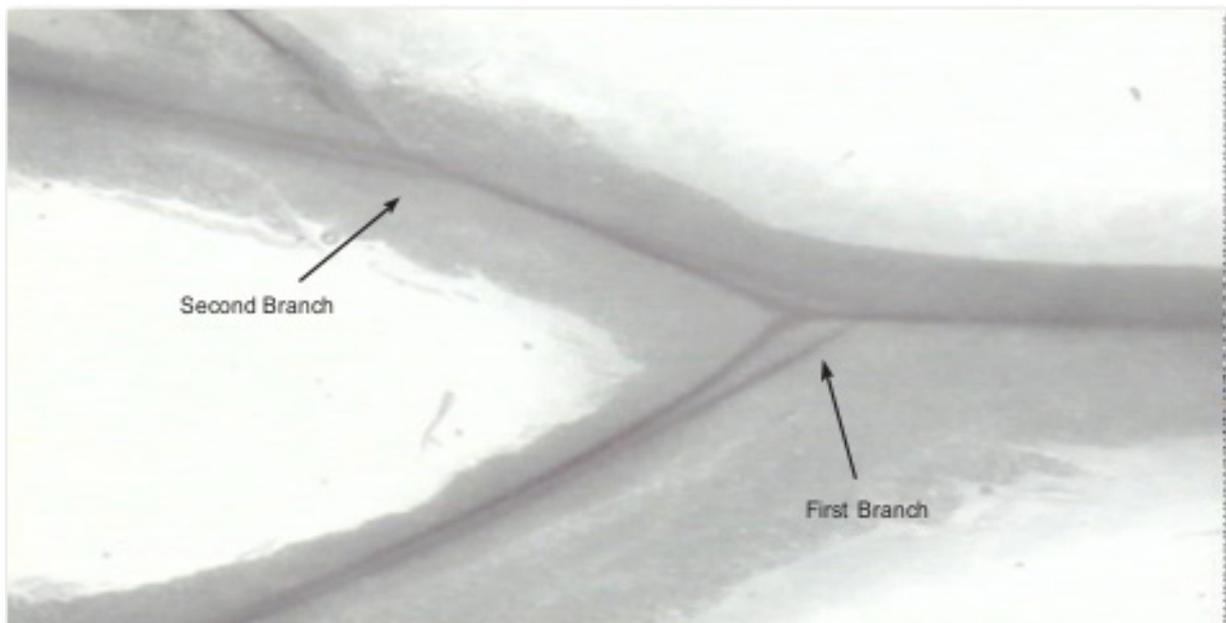

Figure 5.1 Branch of the mesenteric arteries
5. Select the vessel segment to be investigated (Fig. 5.1). First time myograph users are recommended to start dissecting and mounting vessel segments from the first or second branch from the superior mesenteric artery (approximate internal diameter 200-300 $\mu$ m).